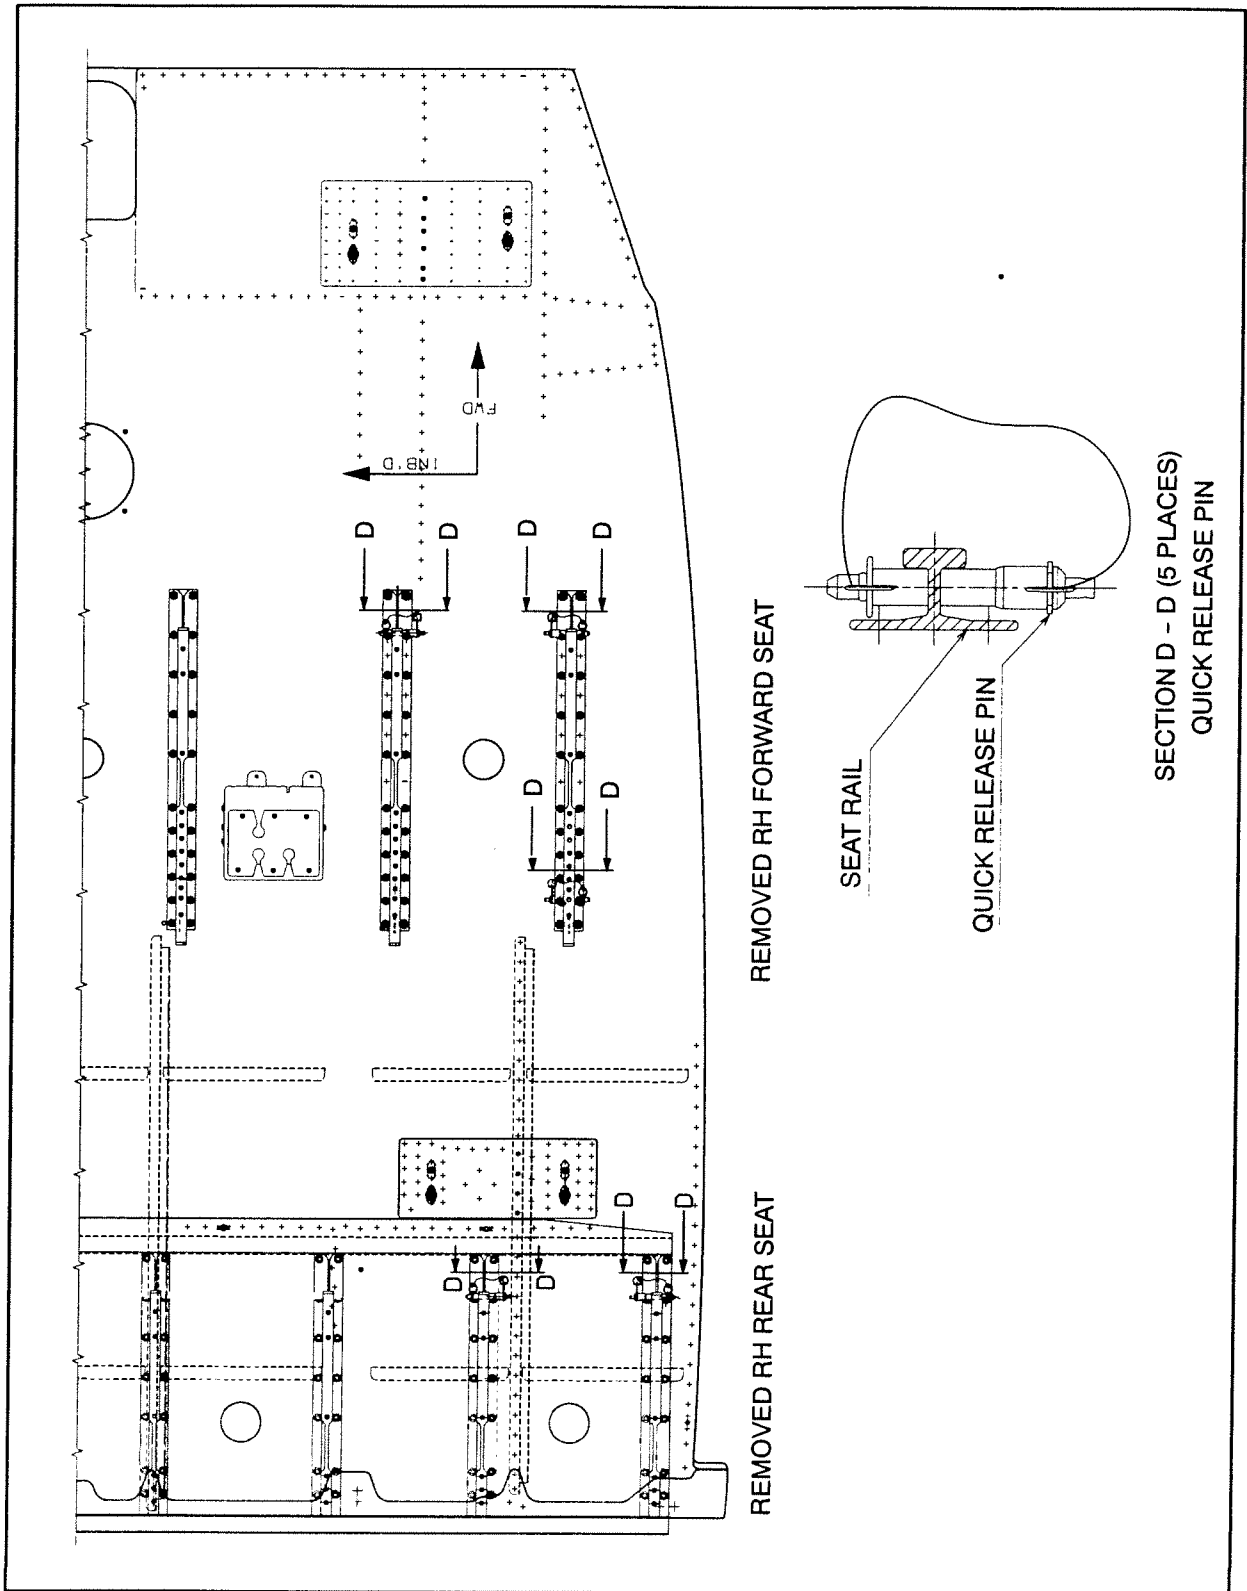
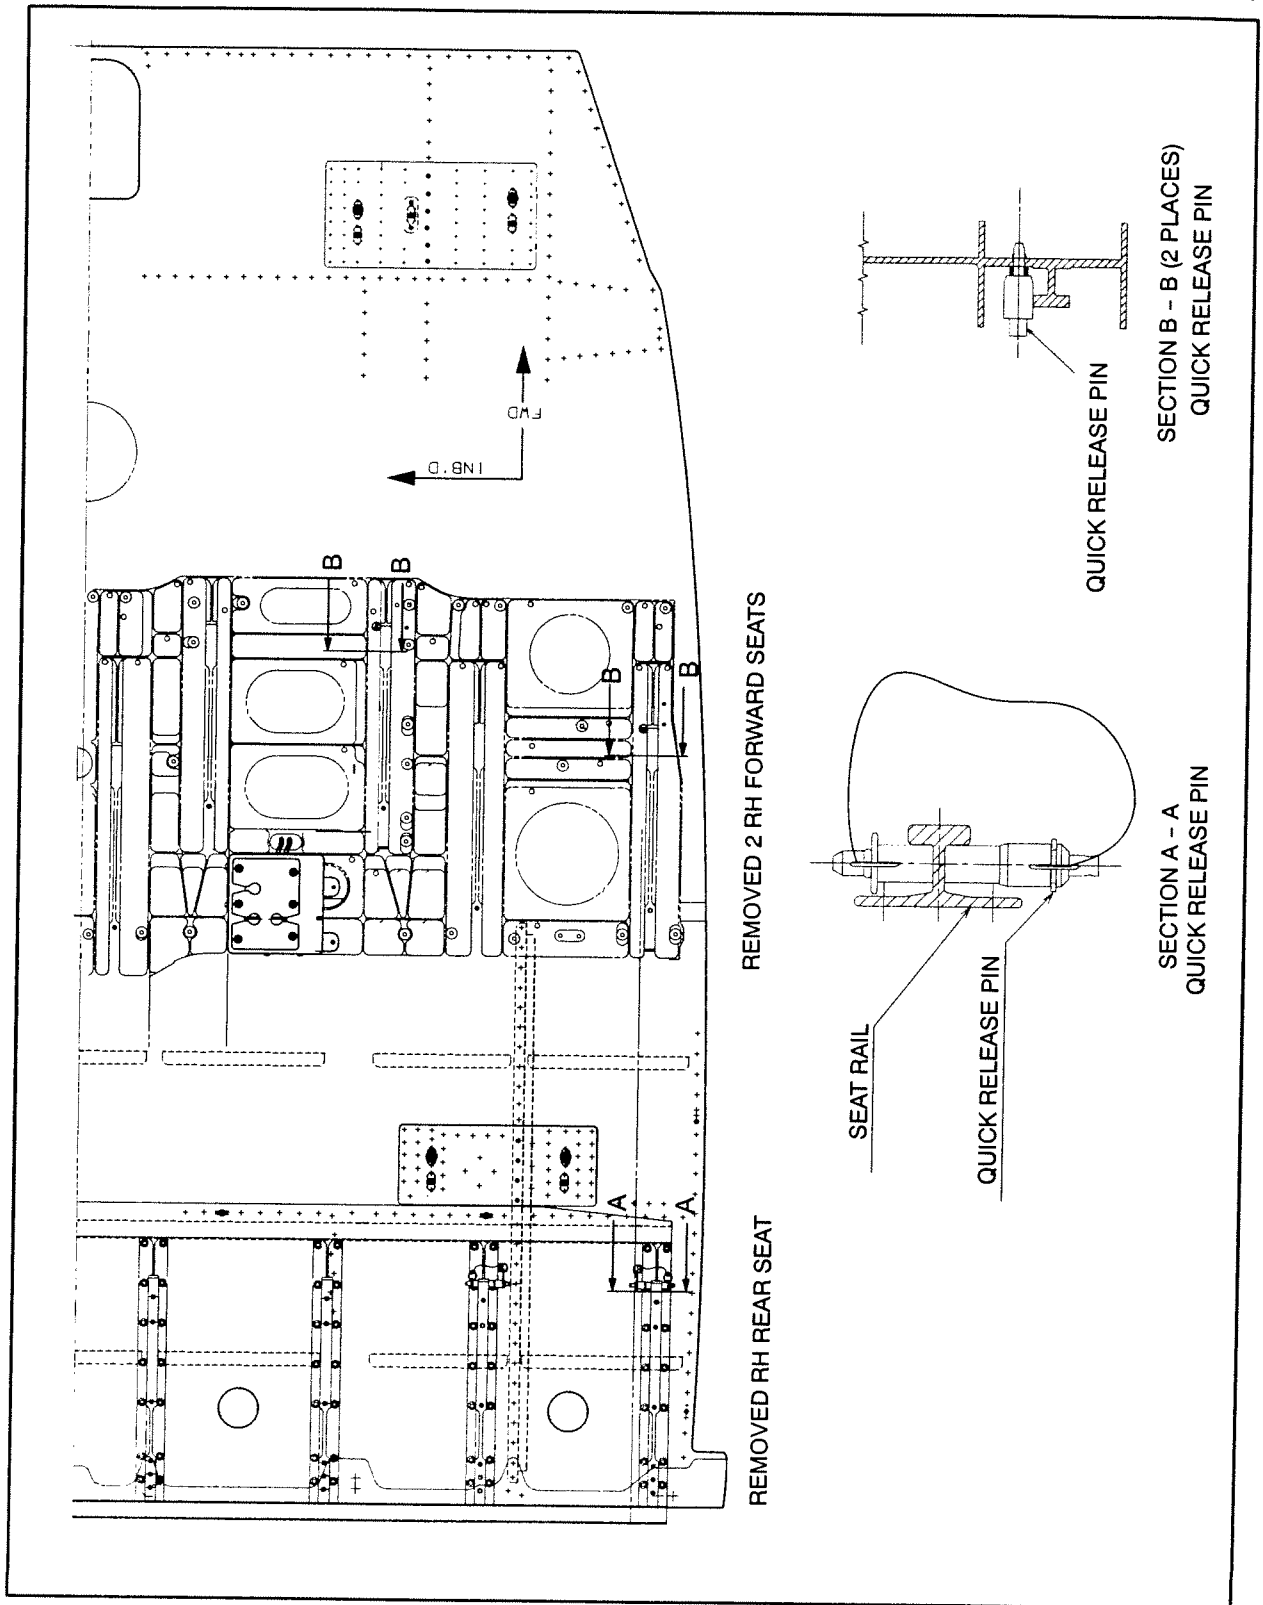

Figure 2 Location of Removed Seats, 7 Place Interior
Figure 3 Location of Removed Seats, 8 Place Interior
- 1) Refer to Figure 2 for 7 Place Installation, or Figure 3 for 8 Place Installation.
- a. Disengage the quick release pins that secure the RH forward seat(s) and RH rear seat to the seat rails and remove the seats. Refer to Figure 2 for 7 place installation, or Figure 3 for 8 place installation.